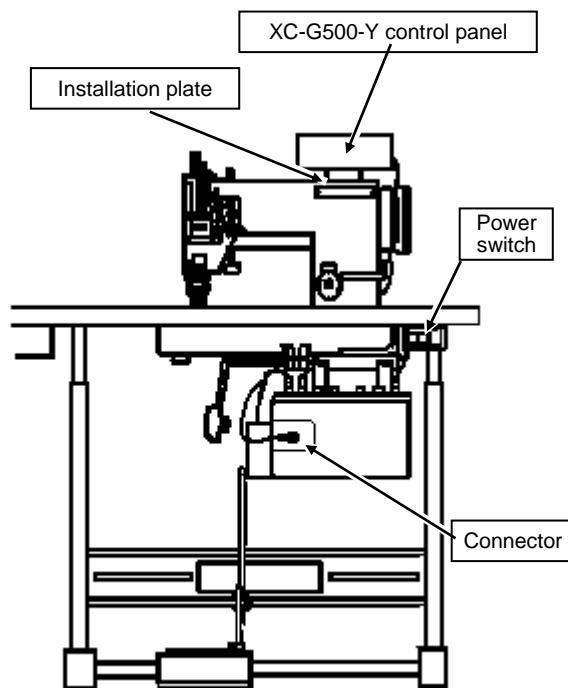

Fig. 1 Configuration
2. INSTALLATION PROCEDURE (See Fig. 1.)
- (1) Turn OFF the power switch.
- (2) Use the installation plate and screws provided, and install using the machine arm back plate tightening screws and so forth.
- (3) Exercise extreme caution to ensure lead wires do not come into contact with the rotating body like the belt, pulley and so on.
- (4) Connect the control panel connector firmly to the control box connector (see Fig. 1).
- (5) The pattern display area are lighted when the power is turned ON.